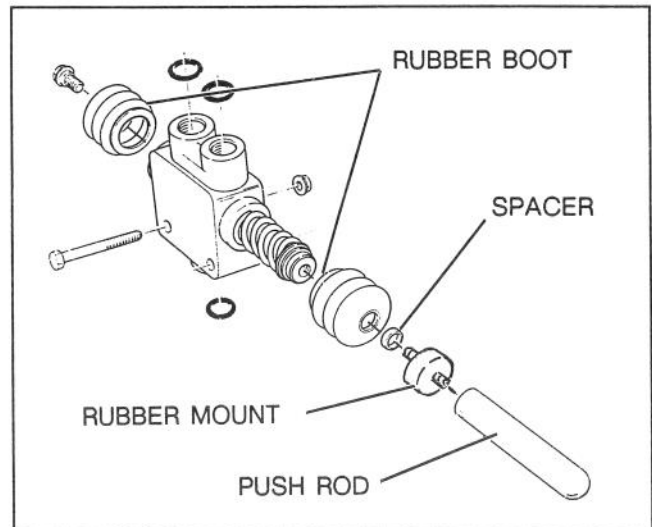

Figure 5
1. Install a rubber boot over output end of valve spool and onto edge of valve boss. Thread shoulder bolt into spool end (Fig.5).
2. Install a rubber boot over input end of valve spool (Fig.5). Stretch boot so it fits over casting flange.
3. Insert a spacer, into boot opening, on input end of valve spool (Fig.5).
4. Thread the rubber mount, removed from old valve, into input end of spool (Fig.5).
5. Thread the appropriate push rod, removed from old valve (#4 or #5 position), onto rubber mount (Fig.5).
6. Coat (3) o-ring seals with oil and install in valve.
8. Mount valve to frame using (2) capscrews and flange locknuts (Fig. 5).